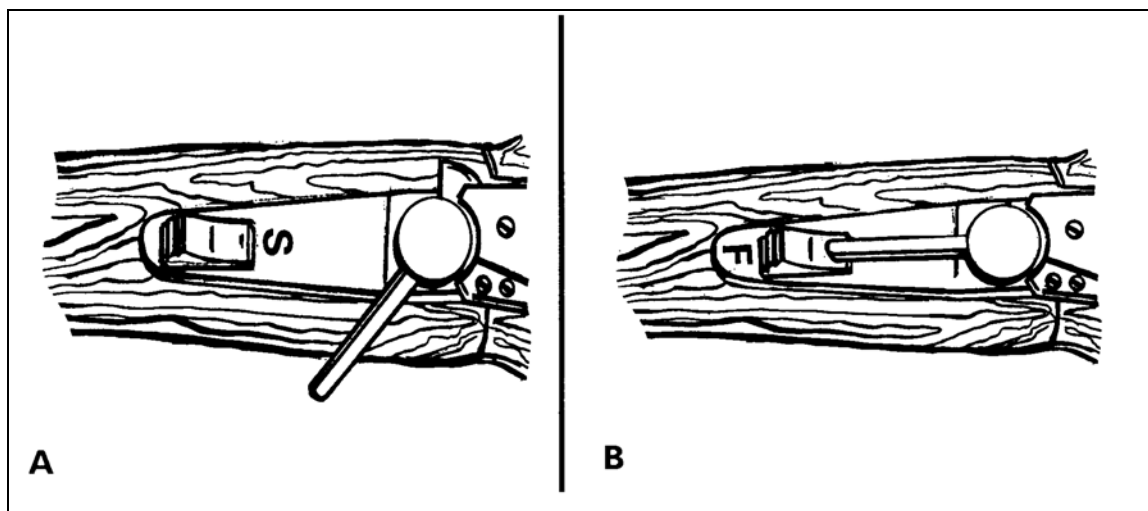

Figure A-5. Safety.
c. **Safety.** To fire the launcher, ensure the safety is positioned forward (A, Figure A-5) with the letter “F” visible near the rear of the safety. It will not fire if the letter “S” is visible. The safety automatically engages when you unlock the barrel locking latch and open the breech (B, Figure A-5).